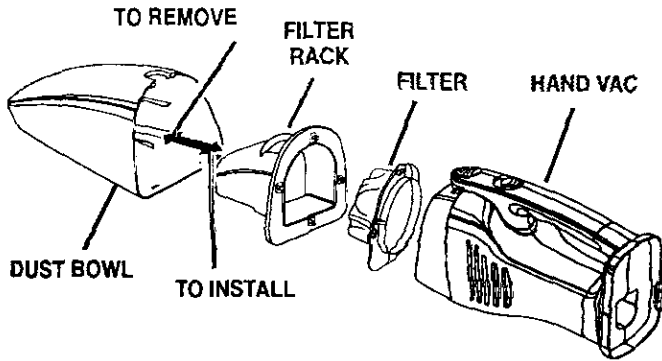

Fig. 6
- Remove the assembled filter rack and filter by pulling them out of the dust bowl. **NOTE:** The filter is locked in place in the filter rack. See Figure 6.